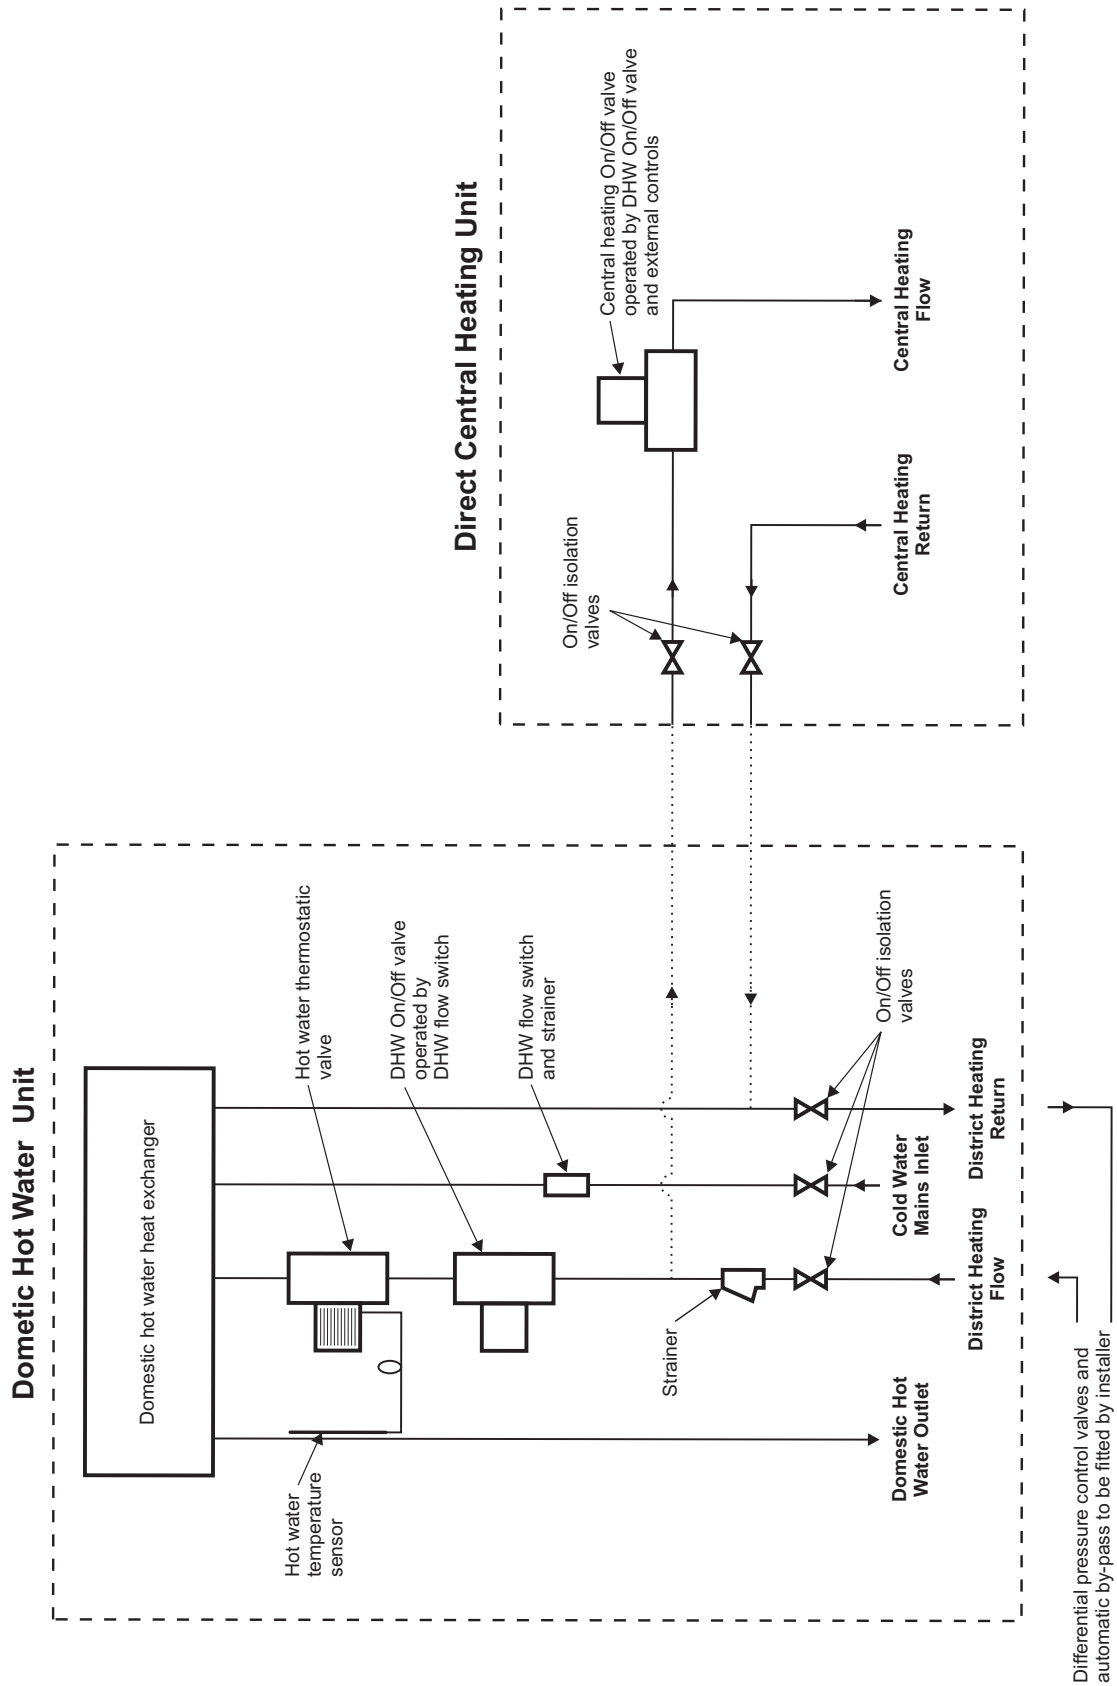

Fig. 2 Direct Central Heating
**If a direct central heating unit is used** - fit the central heating valve and isolating valves in the positions shown in Fig. 2.
**If a direct central heating unit is used** - fit the 22 mm strainer supplied to the district heating flow pipe and then fit the two isolation valves to the district heating flow and return pipes. See Fig. 2.